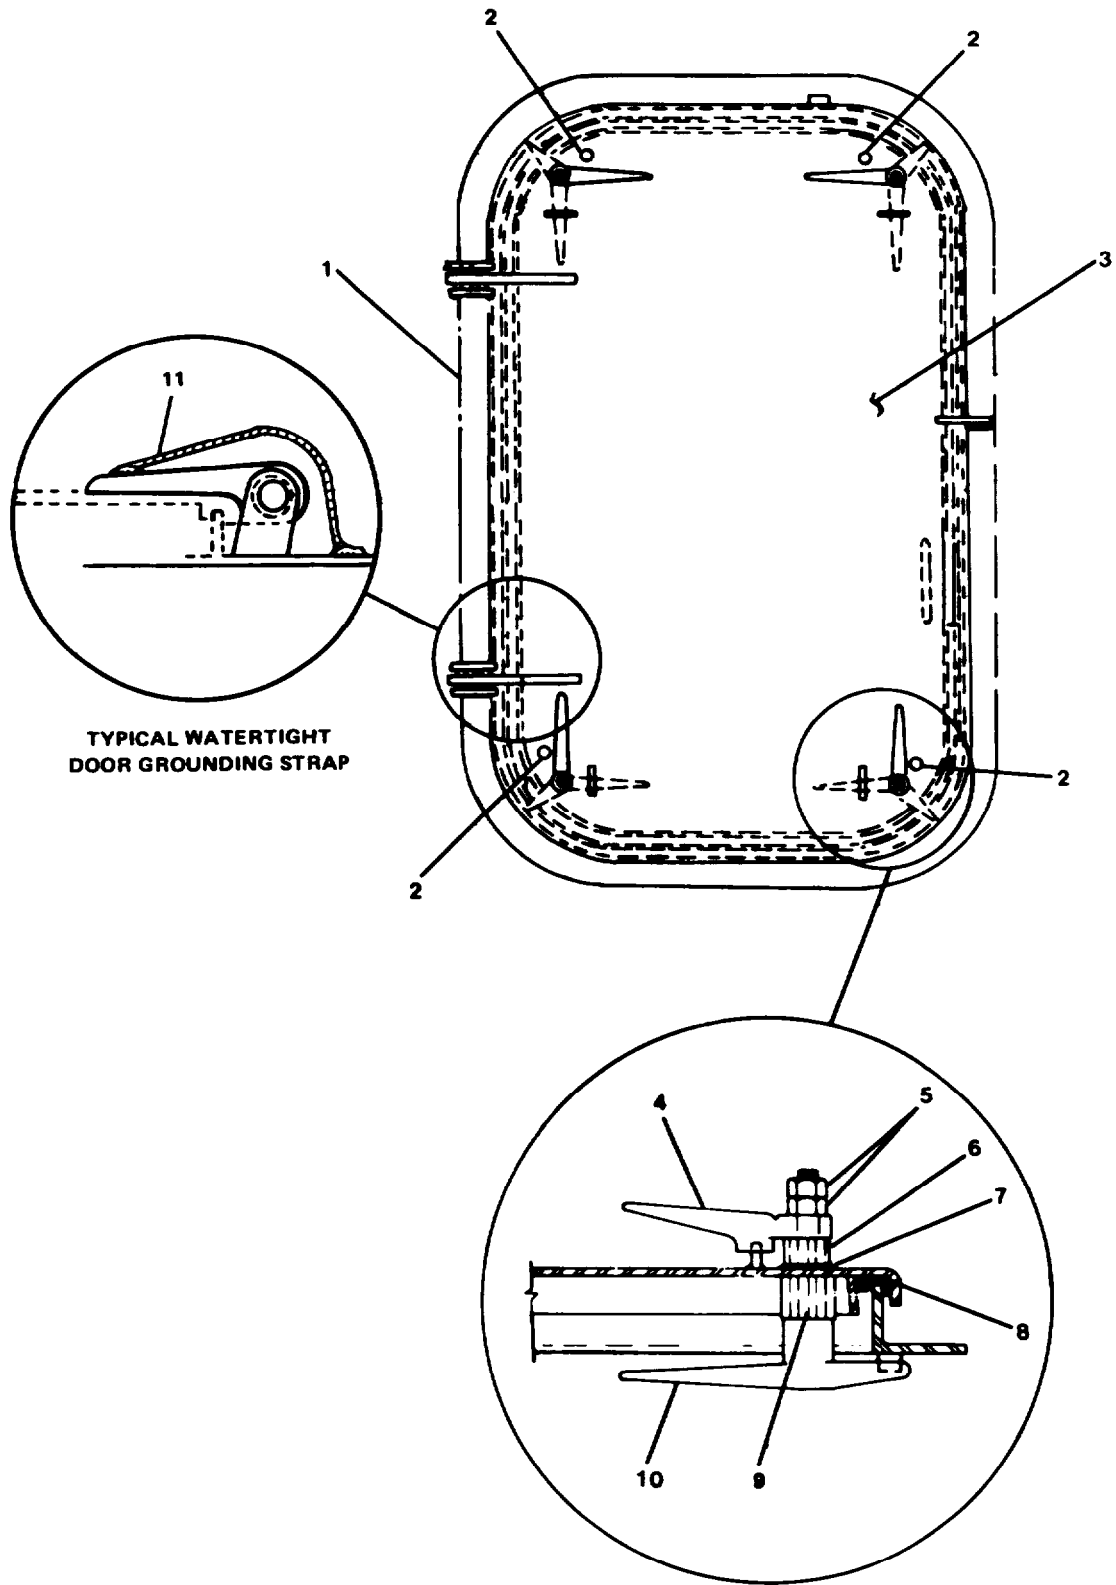

FIGURE 2-177. Repair Watertight Door, Four Dogs (30 x 60).
- a. Remove hex nuts (5, FIGURE 2-177) and handles (4) from door (1).
- b. Remove bronze bushings (6) and preformed packing (7) from door.
- c. Remove dog door closer (10) from door.
- a. Install flanged plate (3, FIGURE 2-177) and stops (2) on door (1).